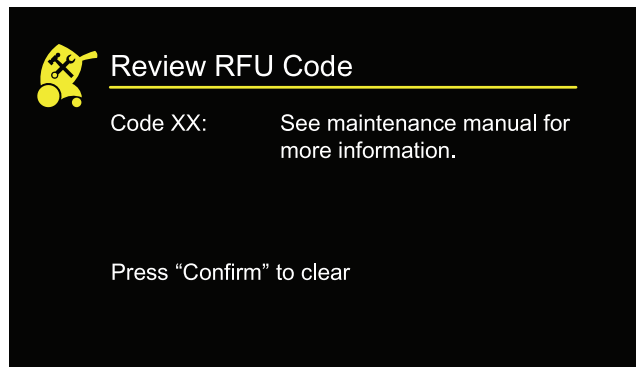

Figure 2 – RFU Code
3. To clear the RFU Codes, tap **Confirm** (Figure 2).